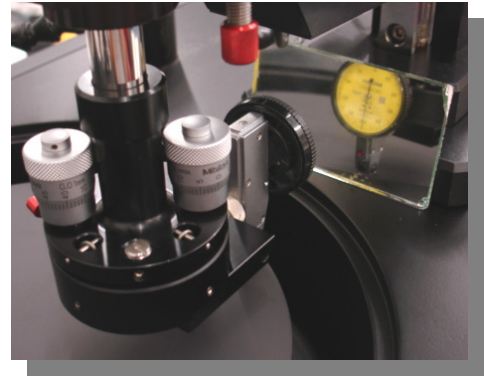

Figure 23
6) Activate sample rotation and stop when the dial indicator is at the 12 o'clock position. Rotate the vertical adjustment knob until the needle reads "100." A mirror is supplied in the accessory kit to help see the indicator face when it is at the 12 o'clock position facing away (Figure 23). Activate sample rotation and stop at the 6 o'clock position.